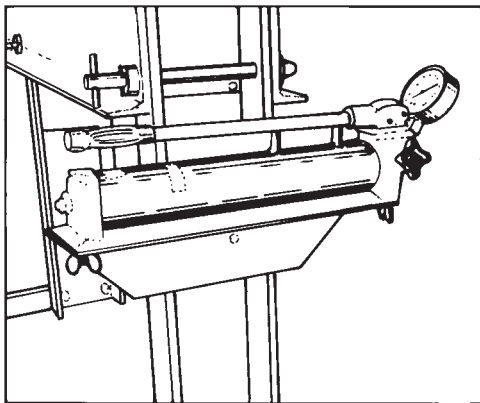

Figure 2
1. Attach the pump mounting bracket (item 42) to the right-hand upright using two $\frac{3}{8}$ in. cap screws (item 43) and hex nuts (item 1).
NOTE: The pump bracket (item 42) can be mounted in two positions, as shown in Figures 2 and 3.
2. Attach the hand pump to the pump bracket (item 42) using thumbs screws (item 41) and wing nuts (item 40).
3. With the pipe plug on the hydraulic cylinder (item 12) facing the rear of the press, attach the cylinder (item 12) to the cylinder mounting plate (item 5) using cap screws (57) that thread into the mounting plate.
4. Attach the cylinder assembly to the upper bolster assembly by first hooking the back end of the cylinder plate over the bottom edge of the upper rear bolster. Then secure the cylinder plate to the upper front bolster by threading an adjusting screw (item 6) into the threaded hole in the front end of the mounting plate. Tightening the adjusting screw locks the cylinder assembly in place. Loosening the adjusting screw allows the cylinder plate to be repositioned anywhere along the length of the bolster assembly.
5. Insert an adjusting screw (item 49) down between the upper bolsters and through the center hole of the hydraulic cylinder. Thread a knurled pushing adapter (item 50) onto the bottom end of the adjusting screw. Attach a speed crank (item 48) to the upper end of the adjusting screw.